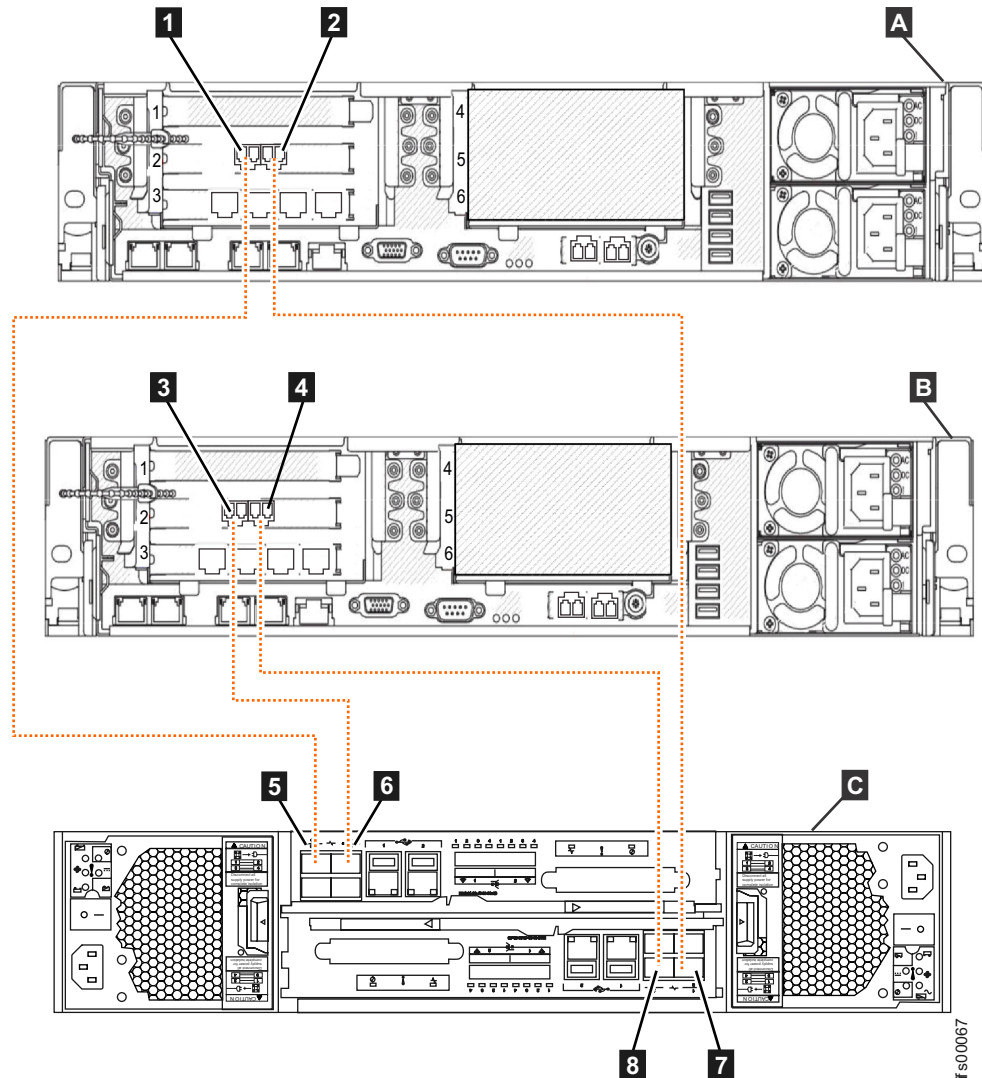

Figure 46. Connecting the file modules to the control enclosure using Fibre Channel cables.
- Before continuing, make sure that you have connected the Fibre Channel cabling as shown in Figure 46 on page 86 to ensure proper redundancy. Incorrect cabling may result in a loss of service during system maintenance procedures.